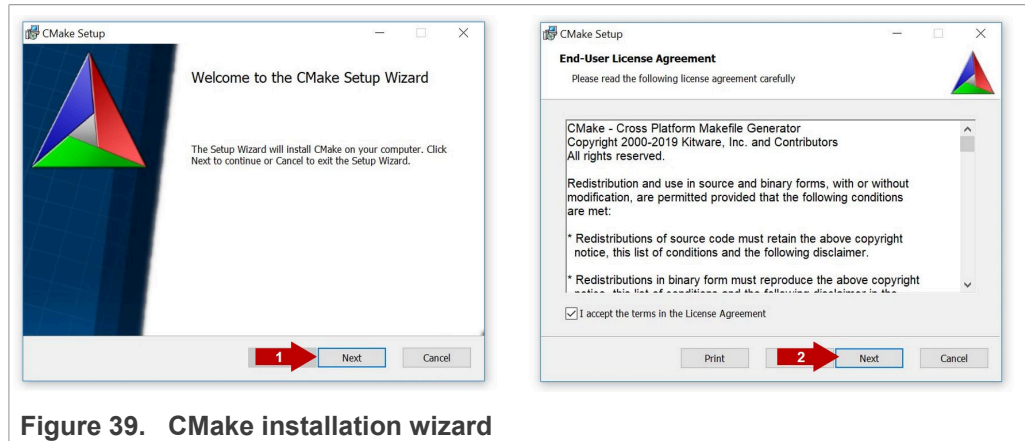

Figure 39. CMake installation wizard
- The CMake installation wizard will open. Click (1) **Next** and (2) **accept** the End-User License Agreement as shown in Figure 39: